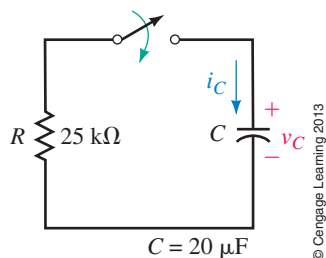

FIGURE 11-53
23. For the circuit of Figure 11-53, assume the capacitor is charged to 50 V before the switch is closed.
24. The initial voltage on the capacitor of Figure 11-53 is 55 V. The switch is closed at $t = 0$. Determine capacitor voltage and current at $t = 0^+$, 0.5 s, 1 s, 1.5 s, 2 s, and 2.5 s using the universal time constant curves.
26. The initial voltage on the capacitor of Figure 11-53 is 55 V. The switch is closed at $t = 0$ s and opened 1 s later. Sketch v_C . What is the capacitor's voltage at $t = 3.25$ s?